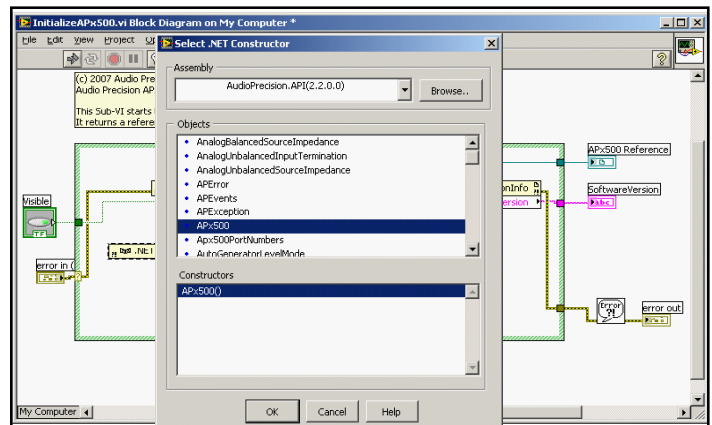

Figure 2. Create the new APx500 Constructor Node.
1. Select a Constructor Node from the .NET palette and drop it onto the diagram. Then, in the Select .Net Constructor dialog, select the assembly Audio.Precision.API(2.2.0.0), and the Object APx500 (see Figure 2). This changes the .NET reference to correctly point to V2.2 of the API.